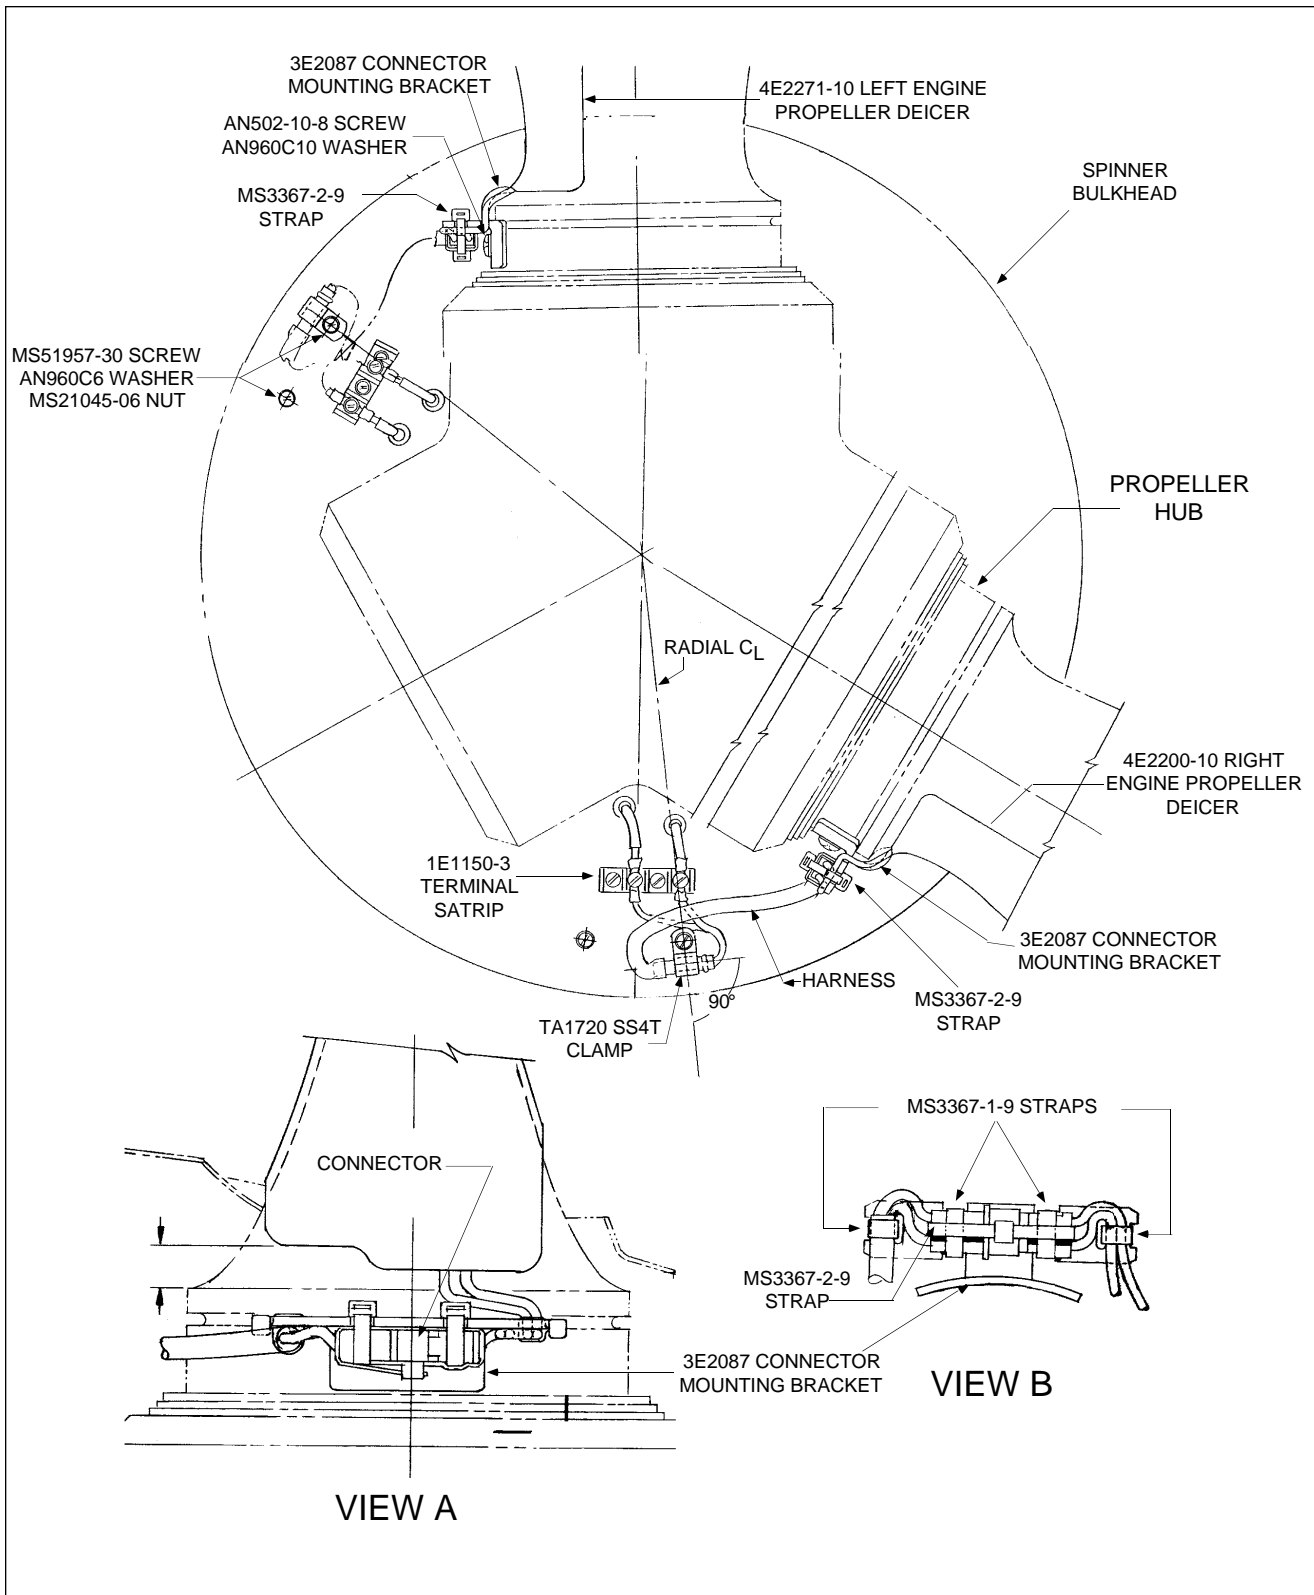

Figure 30-24 Three Bladed Propeller Deicer Harness Installation
INSTALLATION OF DEICER WIRING HARNESS – THREE BLADED PROPELLERS (Refer to Figure 30-24)
3. Secure connector to 3E2087 connector mounting bracket using two MS3367-1-9 straps. (Refer to views A and B.) Route straps under MS3367-2-9 strap. Note position of strap buckles in Figure 30-24.
5. Secure harness to spinner bulkhead using TA1720 SS4T clamp and 1 each MS51957-30 screw, AN960-C6, and MS210454-06 nut. Clamp must be positioned 90° to radial line as shown in Figure 30-24. Ensure clamp is installed in correct mounting hole with respect to propeller rotation.